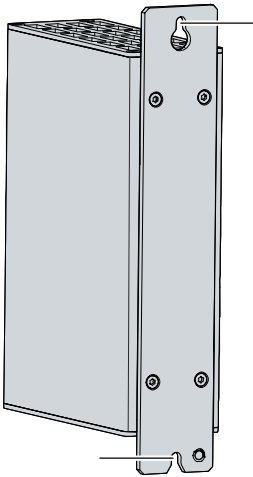

Fig. 16: Dismantling the control cabinet
You now have access to the battery (1) and CFast (2) (see fig. 16).